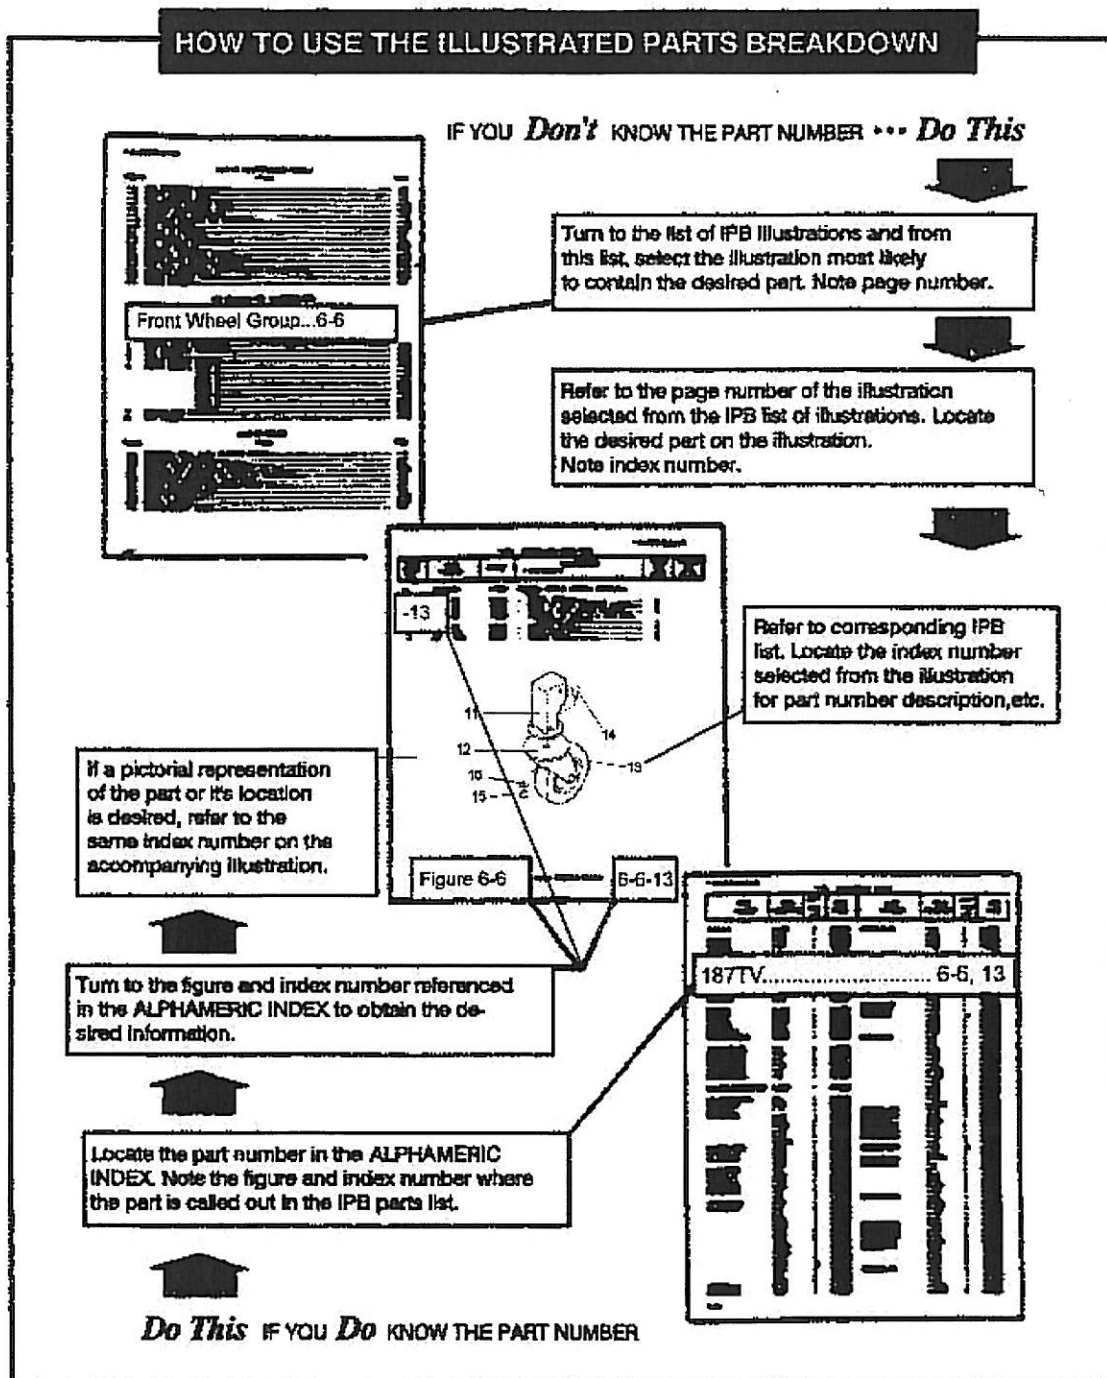

FIGURE 6-1. HOW TO USE THE IPB
6.1.1 This chapter illustrates and lists the assemblies, subassemblies, and detail parts comprising the New Generation Heater (Viking). Figure 6-1 summarizes the use of this illustrated parts breakdown (IPB). Additional details are given in the following paragraphs.